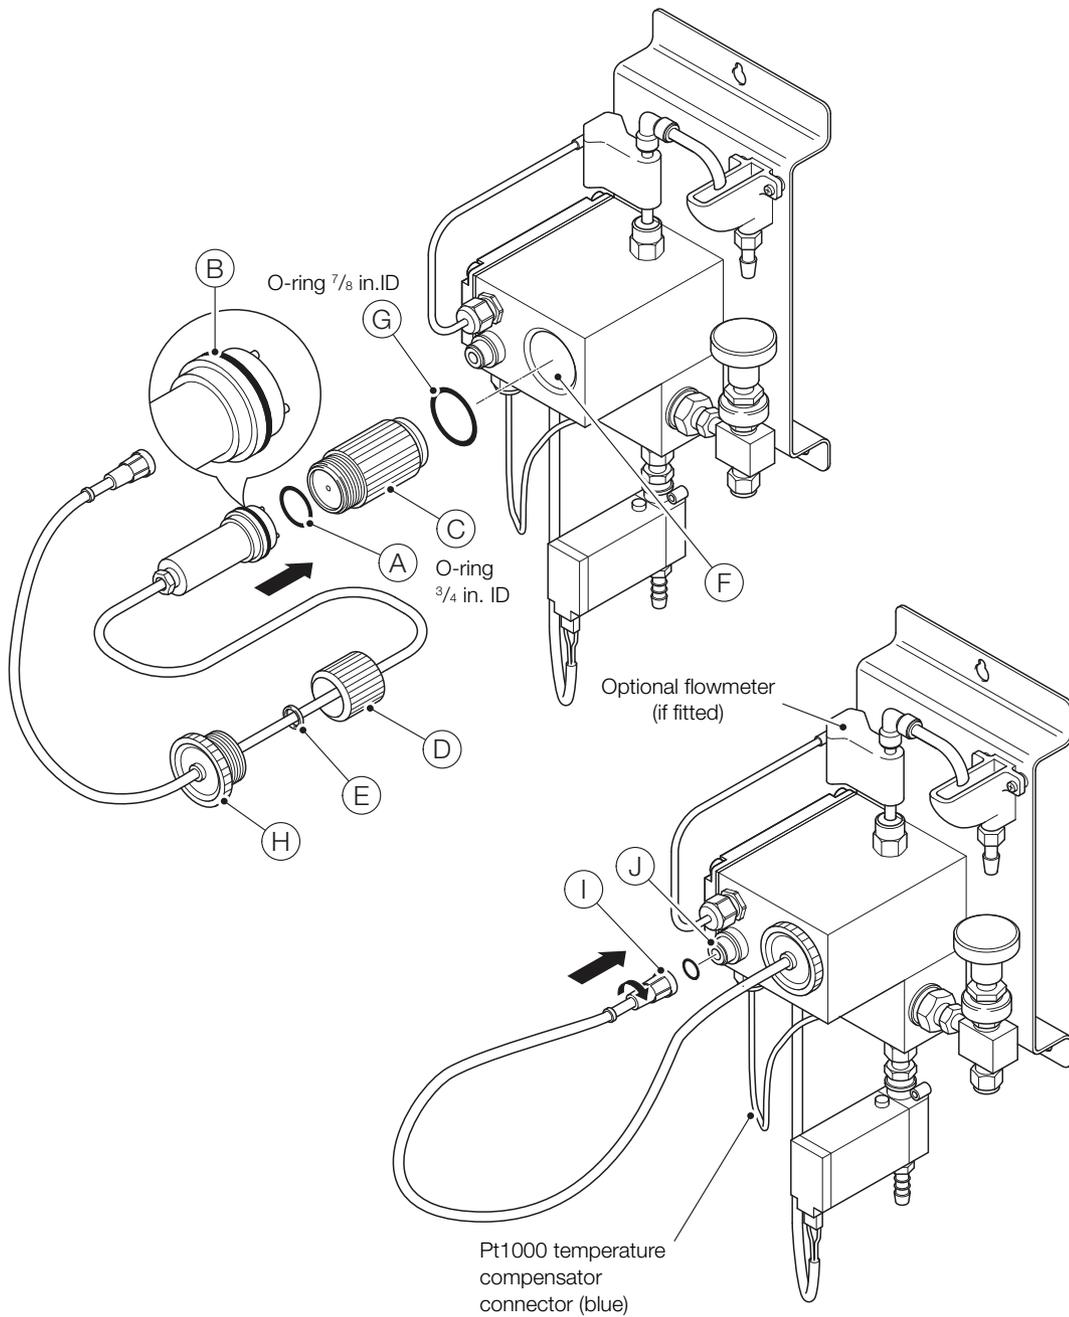

Fig. 4.2 Fitting and connecting the dissolved oxygen sensor – ADS551
- Fig. 4.2, page 23 for ADS551:
3. Fit (or replace, if fitting a new dissolved oxygen sensor) the smaller of the 2 O-rings (A) ($\frac{3}{4}$ in. ID) onto the connector body (B). Locate the sensor (C) on the connector body (B) ensuring the pins and sockets are engaged correctly and tighten the connector nut (D) onto the sensor (C).
4. Slide the thrust washer (E) over the connector body (B).
5. Insert the complete assembly into the flowcell (F) ensuring the larger of the 2 O-rings (G) ($\frac{7}{8}$ in. ID) is fitted (or replaced, if fitting a new sensor).
6. Use the clamping screw (H) to secure the dissolved oxygen sensor assembly and screw in firmly using finger-pressure only.
7. Push the (red) sensor connector (I) onto the sensor connector block (J) firmly and tighten ONE TURN clockwise.